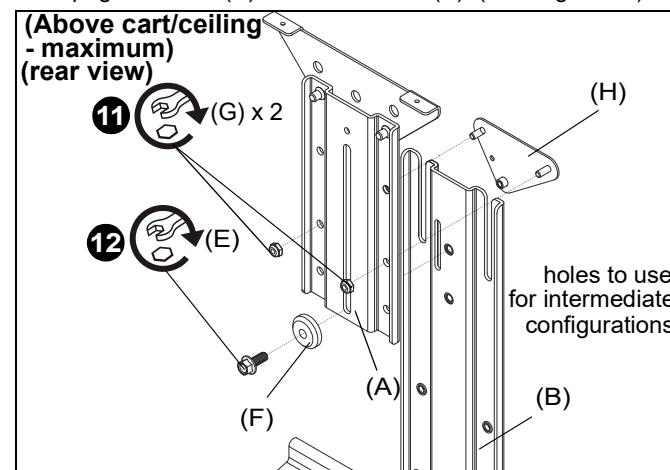

Figure 21
11. (For **maximum/intermediate extension**) Use two #10-24 lock nuts (J) to secure upright bracket (A) to main bracket (B) and adapter plate (H). (See Figure 21)
12. (For **maximum/intermediate extension**) Use 1/4-20 x 5/8" hex head flange bolt (E) and center washer (F) to secure upright bracket (A) to main bracket (B). (See Figure 21)